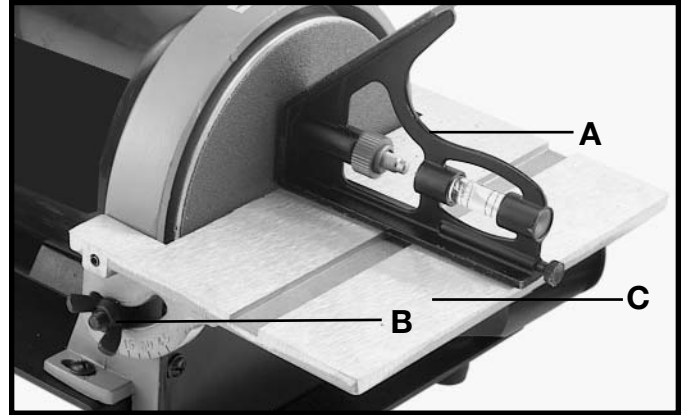

Fig. 20
Check the table surface angle by placing a square (A) Fig. 20 on the table with one end of the square against the sanding disc. If angle is not 90 degrees, loosen the two wing nuts (one of which is shown at (B) Fig. 20), and move the table until the angle between the table and the disc is 90 degrees. Tighten the two wing nuts.